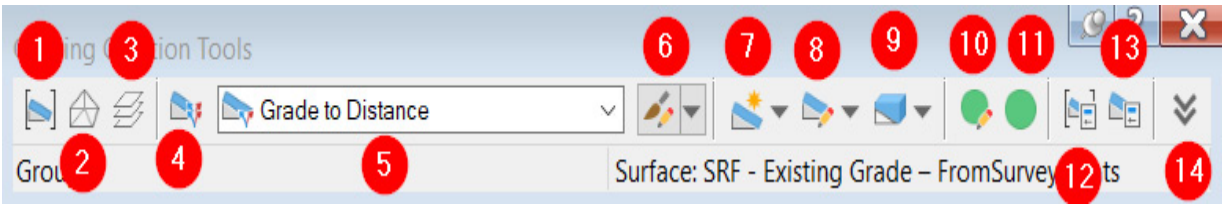

Figure 9.30 – Grading Creation Tools toolbar
After selecting the **Grading Creation Tools** option, the **Grading Creation Tools** toolbar will appear, as shown in *Figure 9.30*:
Running through the tools as numbered in *Figure 9.30*, we have the following:
1. Let's go ahead and change our grading criteria selection from **Grade to Distance** to **Grade to Elevation** by using the down arrow dropdown in our **Select Grading Criteria** box (listed as number 5 in *Figure 9.30*).
2. Once changed to **Grade to Elevation**, we'll then select our **Grading Type Selection** icon (listed as number 7 in *Figure 9.30*), to initiate the creation process.
After applying these steps to all setback feature lines, the last thing we'll need to do is apply an infill grading object inside each of the grading objects displayed in our lots. Going back up to our grading tools, we'll select the down arrow in our **Grading Type Selection** icon (listed as number **7** in *Figure 9.30*) and select the **Infill** option. After being selected, we'll proceed with clicking our left mouse button inside each of the grading objects previously created. As we click inside these areas, you will notice that the boundaries will be highlighted, and a green diamond will appear at the centroid.